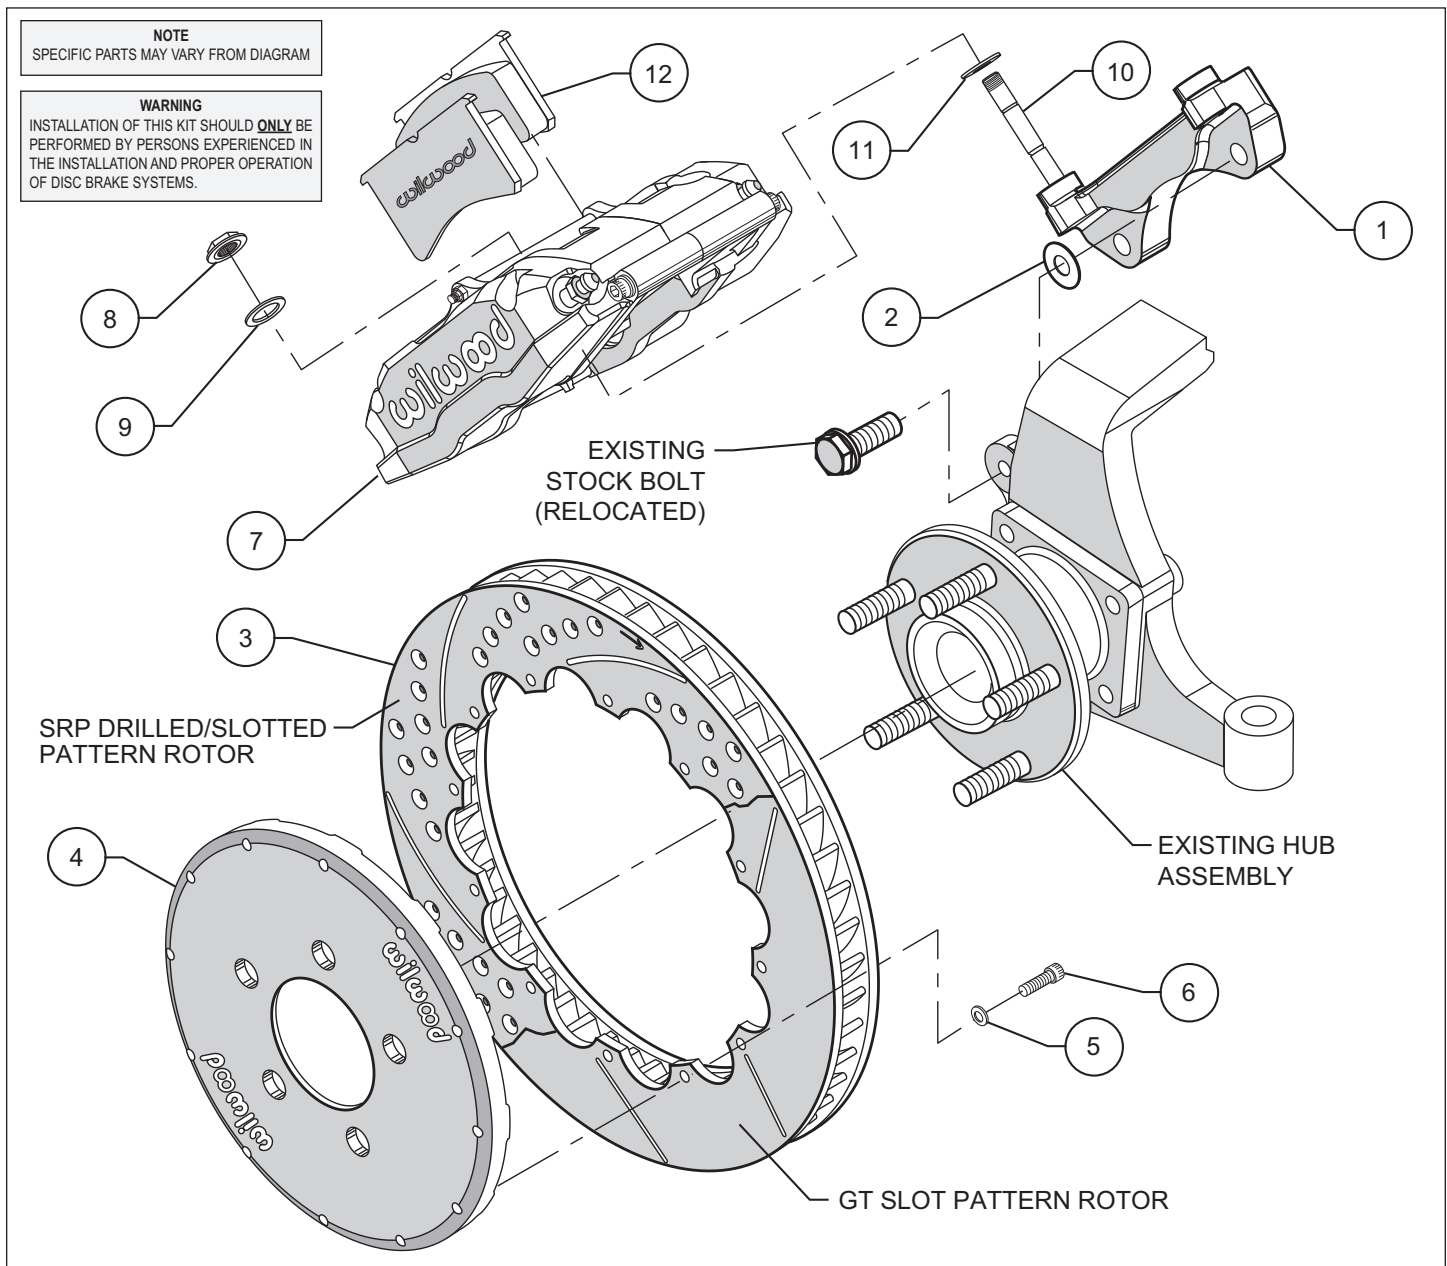
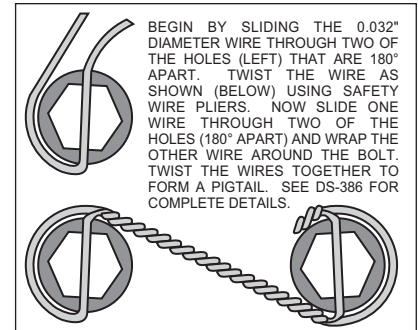

Figure 1. Typical Installation Configuration
Figure 3. Safety Wire Diagram
- The caliper mount bracket assembly (1) should be installed first with clean, dry threads on the mounting bolts. Install the bracket using the original caliper mount bolts. The bolts will now pass through the spindle from the opposite direction that they were removed (see figure 1). The bracket must tighten squarely against the inboard side of the caliper mount bosses on the spindle body. Inspect for interference from casting irregularities, machining ridges, burrs, etc. Use one thin shim (2) between the bracket and spindle during initial trial fitting. Later, after the caliper, pad, and rotor alignment has been checked, and any necessary shims have been put in place, the mount bolts should be coated with red *Loctite*® 271 and torqued to 65 ft-lbs.
- Assemble the rotor (3) to the hat (4) with the bolts (6) and washers (5) provided in the configuration pictured in figure 1. Be sure all bolts thread in smoothly and are snug. Then, torque all bolts in an alternating sequence to 85 **in-lbs**. Safety wire bolts (6) using standard 0.032 inch diameter stainless steel safety wire as shown in Figure 3. Please refer to Wilwood's data sheet DS-386 (available at www.wilwood.com/pdf/ds386.pdf) for complete safety wire installation instructions.
- NOTE:** Please reference the caution statement at the beginning of the assembly instructions. Install one shim (11) over each stud (10) on the radial mount bracket. Slide the caliper (7) in place over the studs and rotors and install the washer (9) and lock nut (8) to hold the caliper in place. The caliper bleed screws should be pointing up. Snug the lock nuts (8) and check that the rotor (3) is centered in the caliper (7). Add or subtract .035" shims (2) as necessary between the mount bracket and the spindle to center the caliper.
- Remove the caliper center bridge pad retainer bolt, nut, and tube from the caliper. Slide the brake pads (12) into place. They should install easily without interference. Check that the outside radius of the brake pad is aligned with the outside diameter radius of the rotor face. Add or subtract shims (11) between the caliper and mount bracket to gain the proper alignment. Reinstall the center bridge pad retainer tube, bolt, and lock nut. The locknut should be snug without play in the bolt or tube. Be cautious not to over tighten.
- Once all clearances have been checked, remove the wheel, caliper, hat, and rotor from the spindle and hub. Secure the caliper mounting bracket (1) to the spindle using red *Loctite*® 271. Torque the bolts to 65 ft-lbs. Reinstall the hat and rotor assembly and again use several lug nuts to hold it in place. Lubricate caliper mounting studs and nuts with lightweight oil, reinstall the caliper, torque the caliper nuts (8) to 30-35 ft-lbs.
- Install braided flexline kit part number 220-6746 (not included). The 10mm x 1 to -3 (P/N 220-6890) male fitting installs to the stock bulkhead. Then install the straight 1/8-27 to -3 NPT (P/N 220-6956) fitting into the caliper (7). Finally, install the flex line (P/N 220-6411) to the two previously installed fitting. **Carefully route lines to prevent contact with moving suspension, brake or wheel components.** Wilwood hose kits are designed for use in many different vehicle applications and it is the installer's responsibility to properly route and ensure adequate clearance and retention for brake hose components.